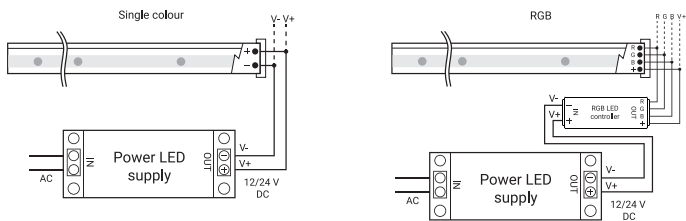

Fig. 3. Diagram of proper connection of the tape to the power supply.
6. Connect the strip to the power supply according to the attached diagram (Fig.3).